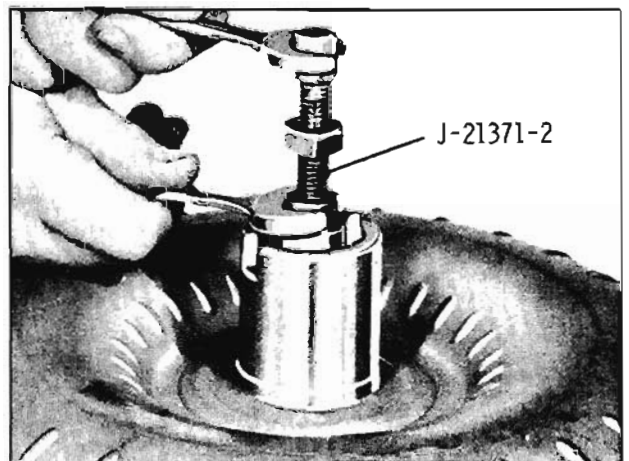

Fig. 6-481 Installing Tool J-21371-2
- a. Install available Tool J-21371-2 and tighten brass nut. (Fig. 6-481)